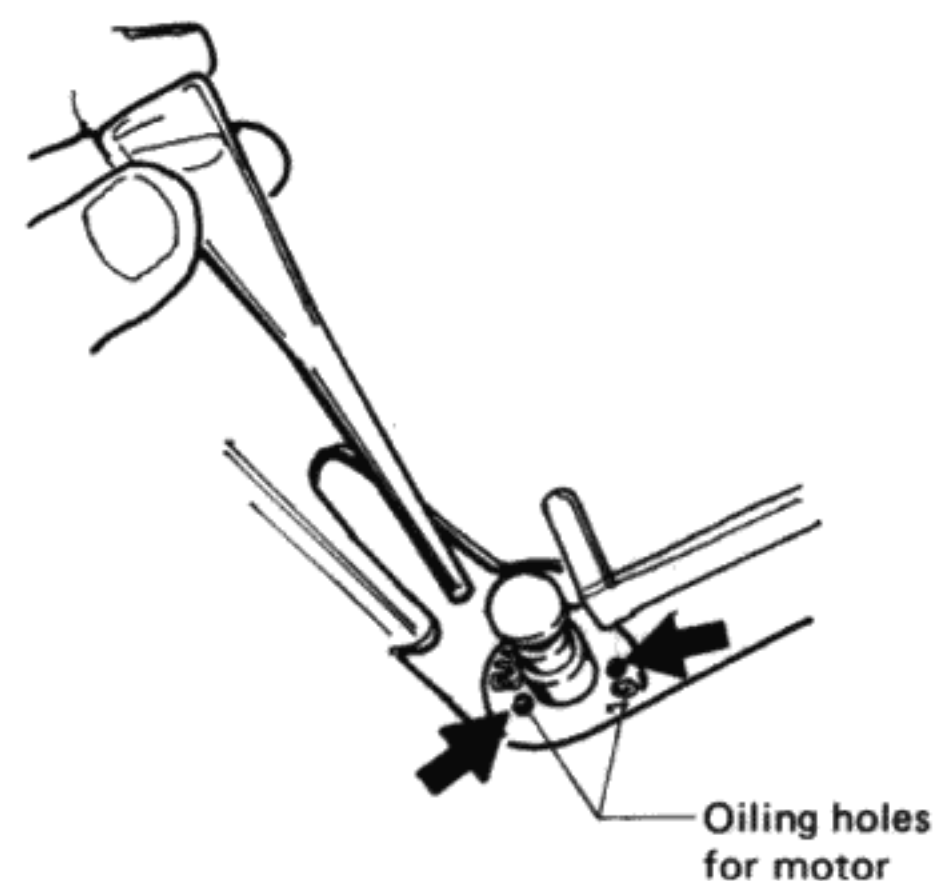

Fig. 11
5. Apply one or two drops of the lubricating oil to the hole (Fig. 11).